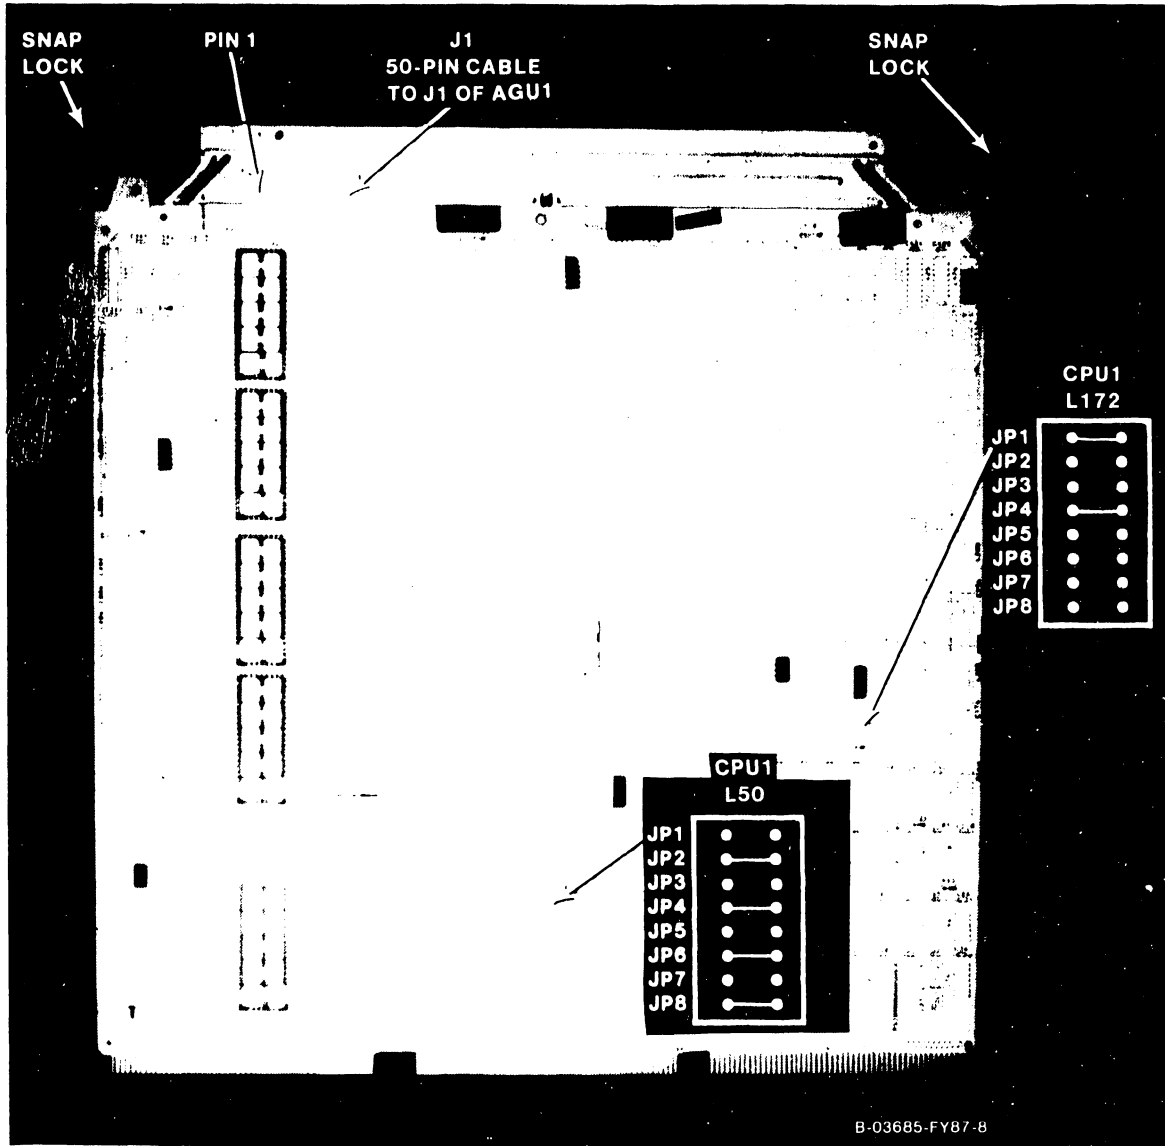

Figure 7-13. 210-9831/9931 Central Processing Unit (CPU1)
1. Before removing the Central Processing Unit (CPU1), figure 7-13, from backplane slot #7, disconnect the 50-pin cable from J1.
3. After checking the CPU Clock jumpers at L50 and SPB (Support Packet Bus) Target ID jumpers at L172 (figure 7-13), install the new CPU1.